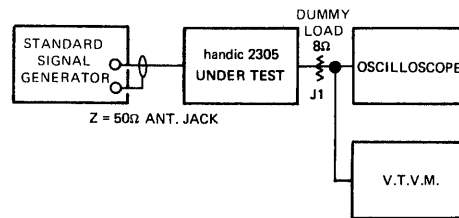

FIGURE 7
- Step 1: Connect the instruments as shown in Figure 7.
- Step 2: Connect the instruments as shown in Figure 7.